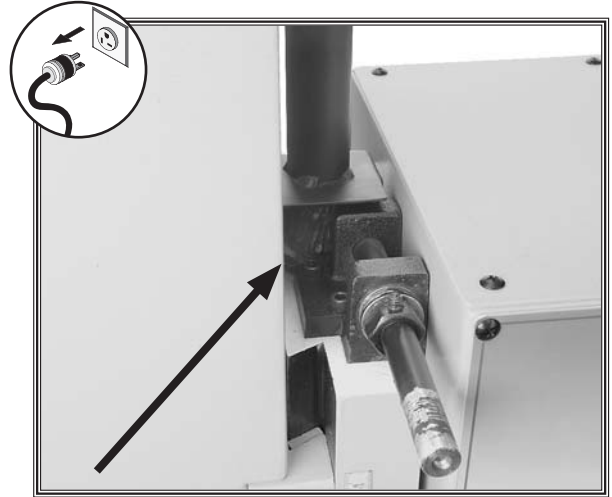

Figure 25. Elevation gears (elevation handwheel removed).
2. Loosen the set screw in the elevation handwheel hub, then remove the handwheel to access the elevation gears, as shown in **Figure 25**.